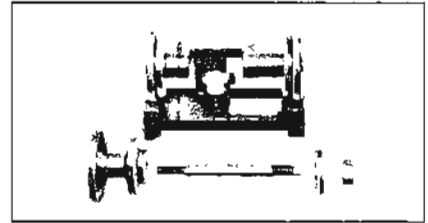

Figure 6-19—Pinion Setting Gauge
Pinion depth is set with Pinion Setting Gauge J-8619 which consists of the following: (1) master gauge, (1) indicator gauge with dial indicator, (2) J-8619-10 Disks, (1) J-8619-11 Gauge Plate, J-8619-12 Pilot and Nut with J-8619-13 Stud. See Figure 6-19. Although production pinions are marked, neither production nor service pinions have a gauging
2. Install the J-8619-10 Disks on the indicator gauge. Install the small contact button on the stem of the dial indicator and mount the dial indicator on the indicator gauge. See Figure 6-19.